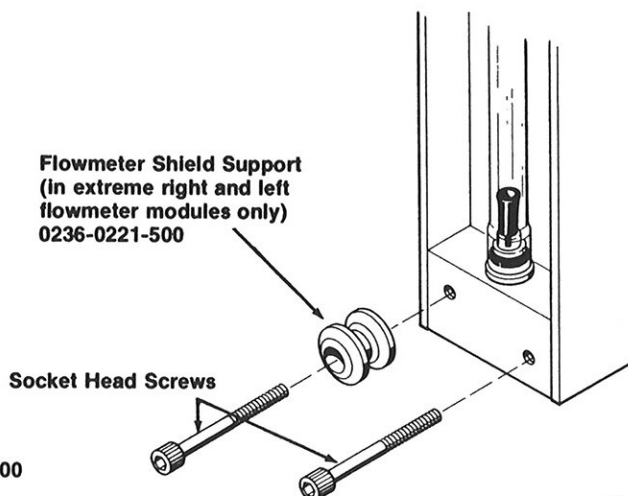

Figure 26.
3. Remove the two socket head cap screws at the lower front of the flowmeter module. The flowmeter module may have a flowmeter shield support held in place with the uppermost socket head screw (see Figure 26). The shield support must be removed when the screw is removed.